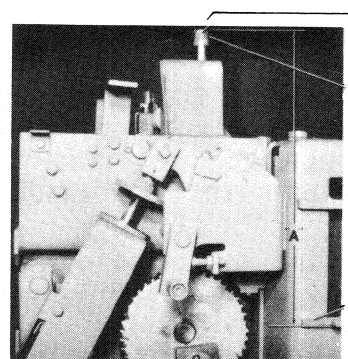

FIGURE 18 (8034464) PLUNGER INTERLOCK
Refer to Figure 18. With the breaker in the closed position, the vertical distance "A" from the top of the plunger bolt (1) to the bottom of the breaker lifting rail (3) should be 11- 7/32" to 11- 11/32". To change this adjustment, add or remove washers (2).